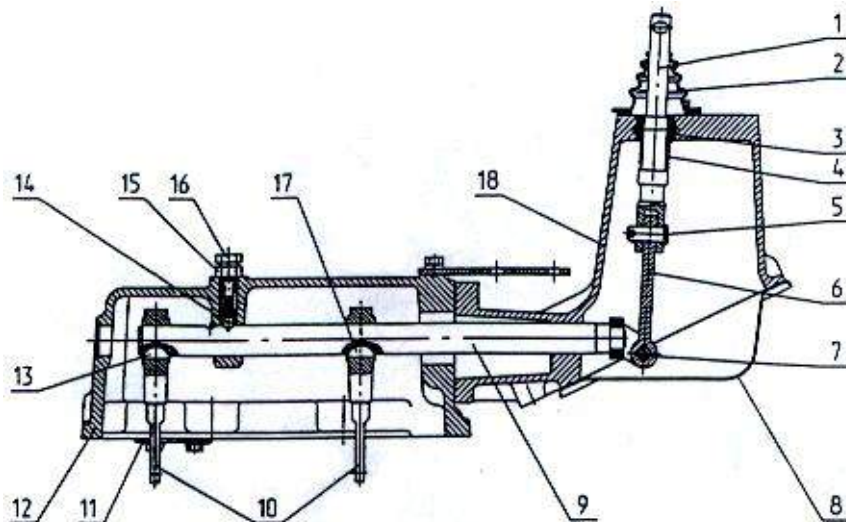

Fig. E-15.4. Speed-range change-over mechanism:
The **speed range change-over mechanism (Fig. E-15.4)** is installed in the transmission gearbox casing (1) and cover of the gear-shift mechanism (14) (see Fig. E-15.1).